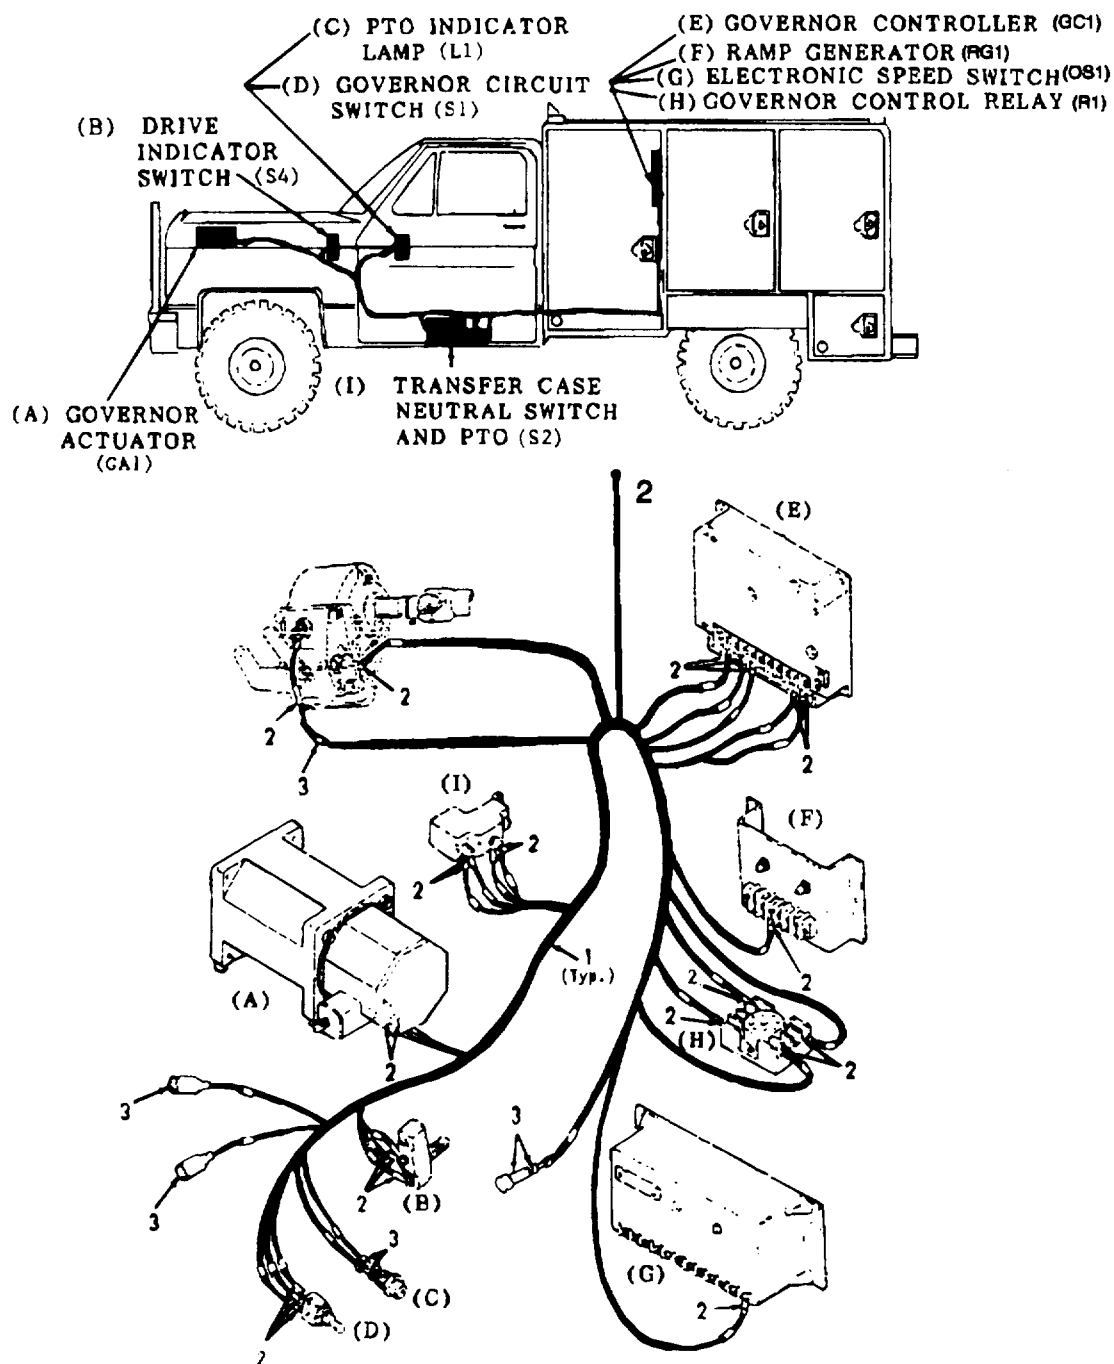

Figure 4-6. Governor Wiring Harness Repair.
a. **Inspection.** (Refer to figures 4-6 and 4-7).
(1) Inspect all wires (1) of wiring harness for fraying or cut insulation.
(2) Inspect all terminals (2) and connectors (3) for breaks or deformation.
(3) Perform continuity checks for shorts/opens in wiring harness with multimeter. If tests indicate a short/open, notify direct support maintenance for repair of wiring harness.